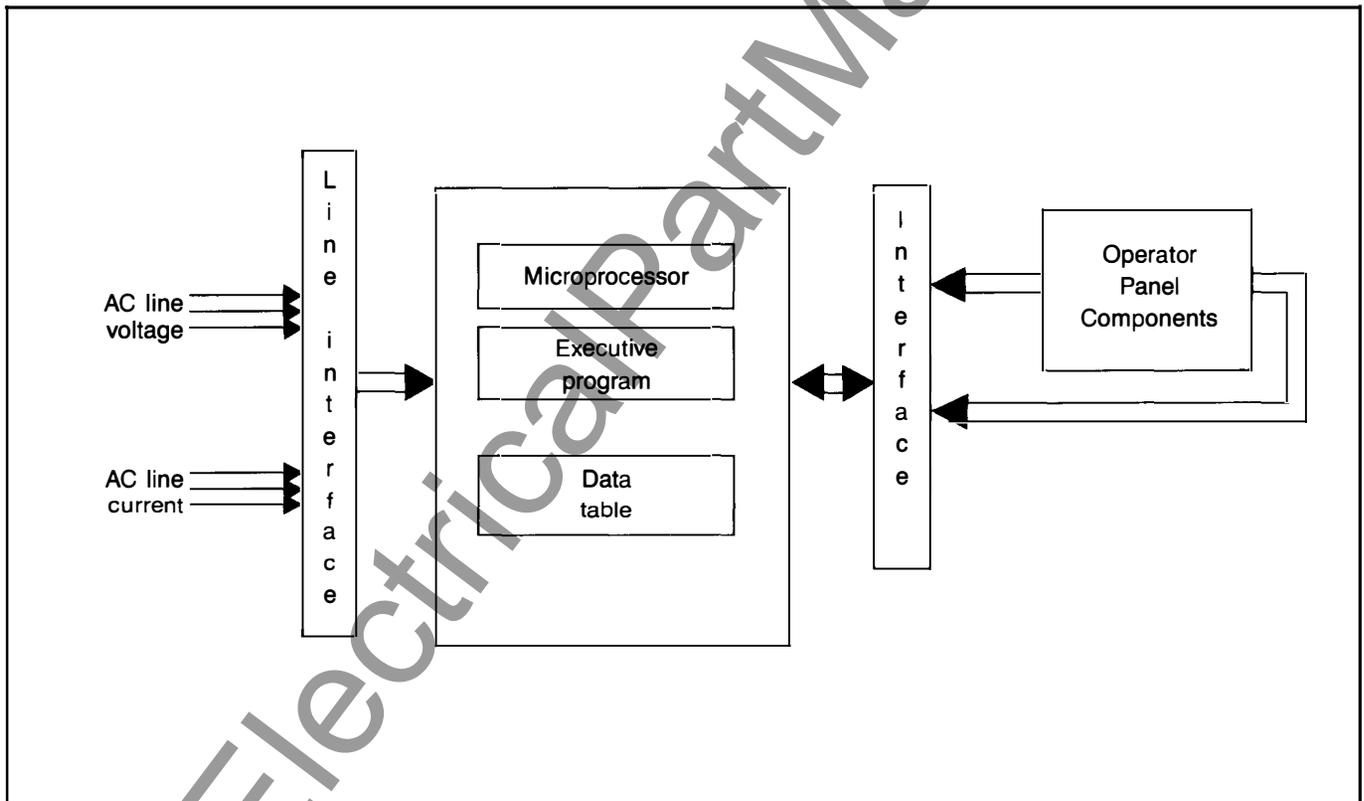

Figure 6.1 — IQ Data Basic Block
**6.1 Basic Block** — The IQ Data is controlled by a self-contained microprocessor which is directed by an “executive program” resident in ROM (read-only memory). (See Figure 6.1.) The microprocessor directs the following 2 operations: